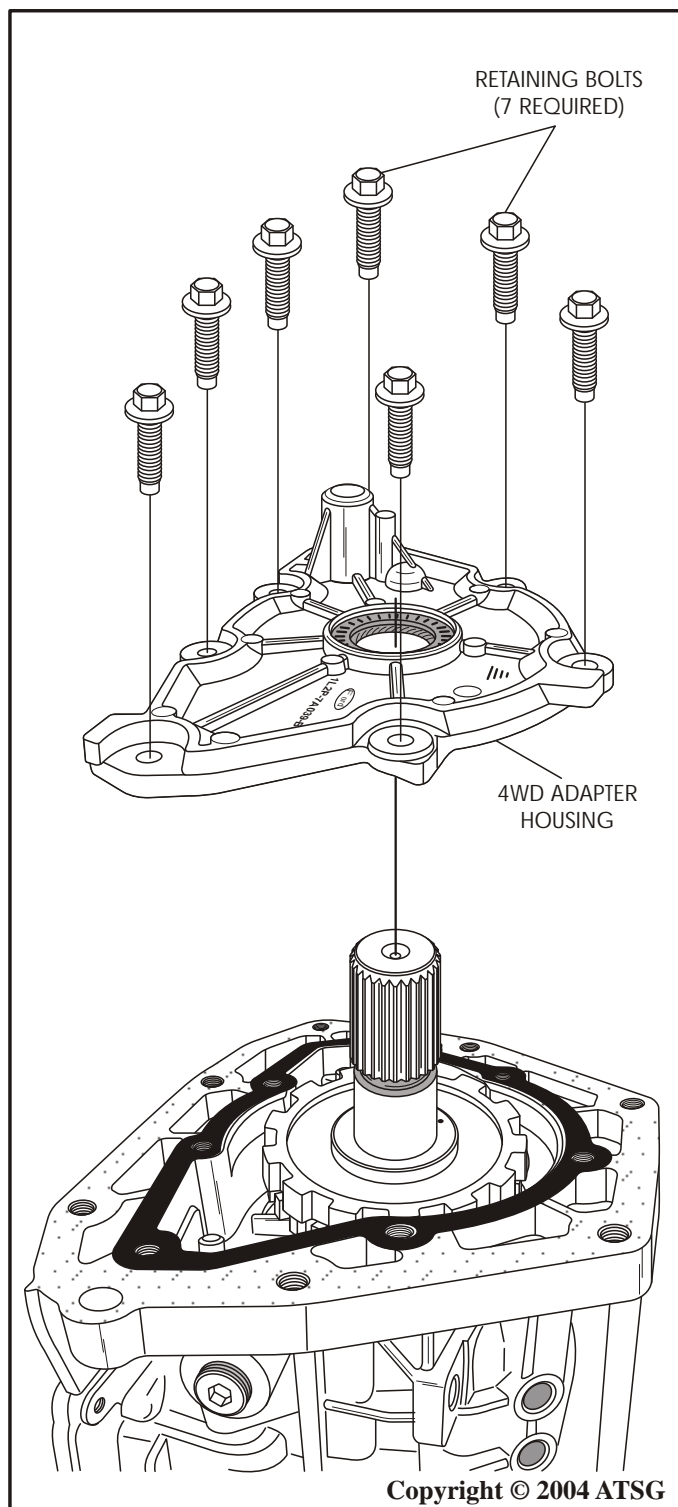

Figure 137
5. Install the preassembled 4WD adapter housing ensuring that the parking pawl is engaged on the park rod properly (See Figure 137).